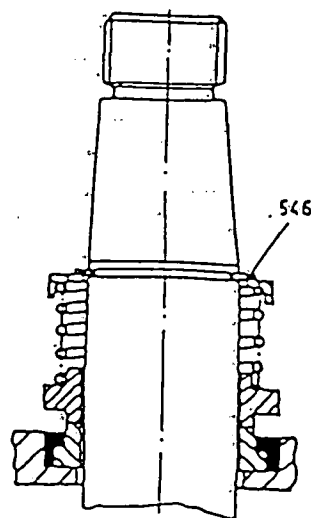

Fig. 22
a) Eposed-spring type seal - "C" (Figure 22)